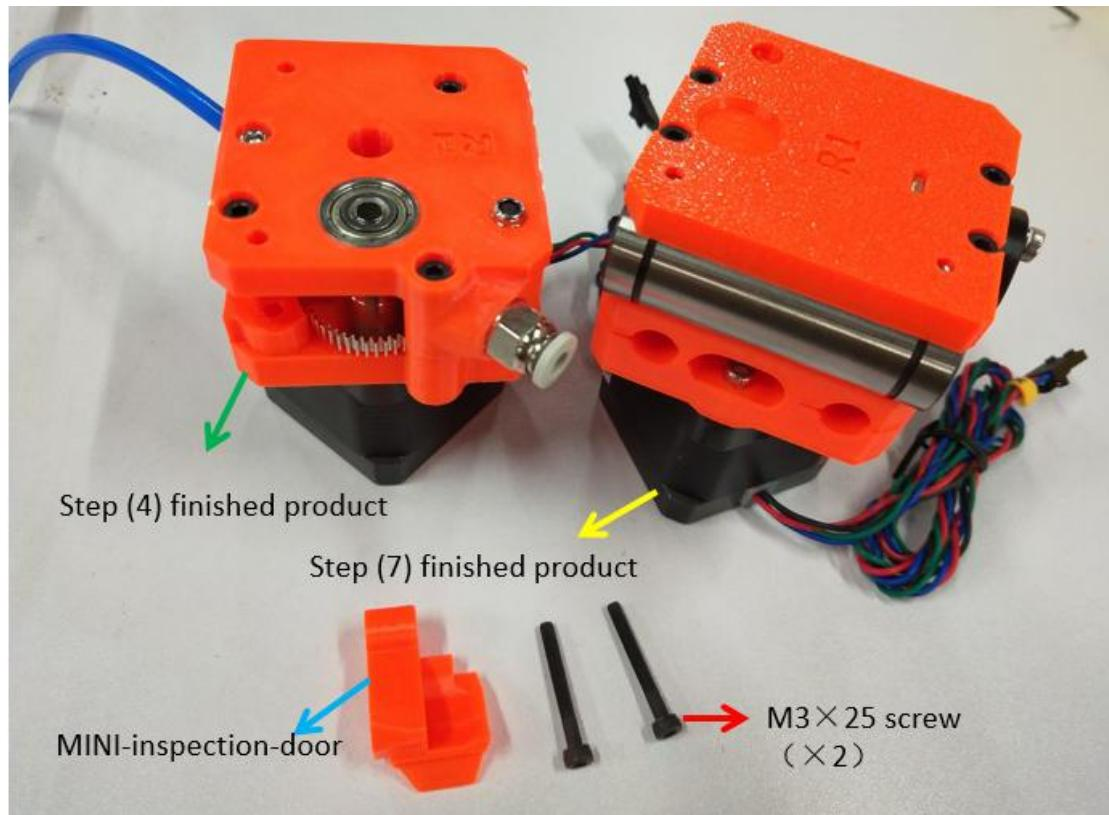

Figure 2.8.1
**Step 2-8-1:** As shown in Figure 2.8.1, prepare the materials and check whether the quantity of materials is correct, and prepare for the next installation.